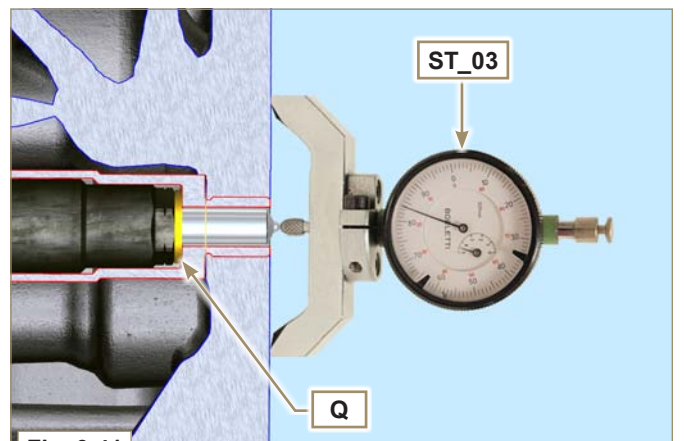

Fig. 9.41
- 3 - Check, using **ST_03** tool (**Fig. 9.41**), the projection of the injector, which must range between 1.68 ÷ 2.42 mm.